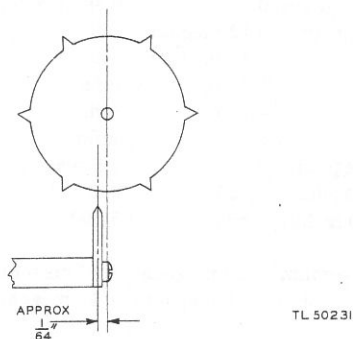

Figure 42—Relationship between printing helix and knife blade
to the printing helix. The blade should be set approximately $1/64$ inch to the left of the helix center-line (fig. 42) while in PRINT position. Make the adjustment by loosening the hexagonal-head clamping screw holding the printer mounting clamp (398) and moving the printer assembly on its pivot pin (399) until the knife edge is in the proper position. Then tighten the hexagonal-head screw.